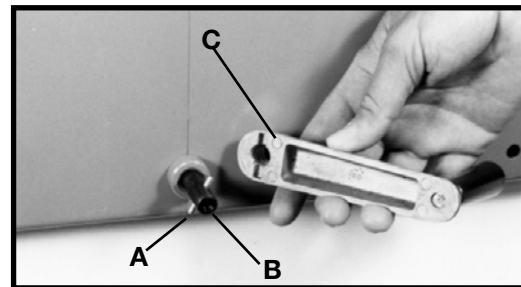

Fig. 5
1. Insert shear pin (A) Fig. 5, into the hole in elevating shaft (B). Using a hammer, tap this pin in to place as show in Fig. 5.
2. Line up the slots in elevating handle (C) Fig. 5, with shear pin (A) and place handle on shaft (B) making certain the roll pin is engaged in the slots.